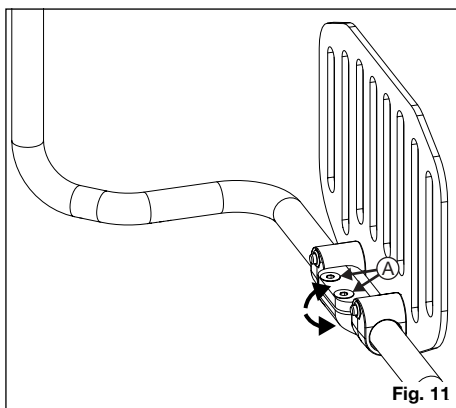

Fig. 11
2. Loosen the two screws (Fig. 11:A) in the adjustable clamp under the footplate using a 4 mm Allen wrench.
3. Rotate the clamp to the desired angle and secure it in place by retightening the two screws (Fig. 11:A).